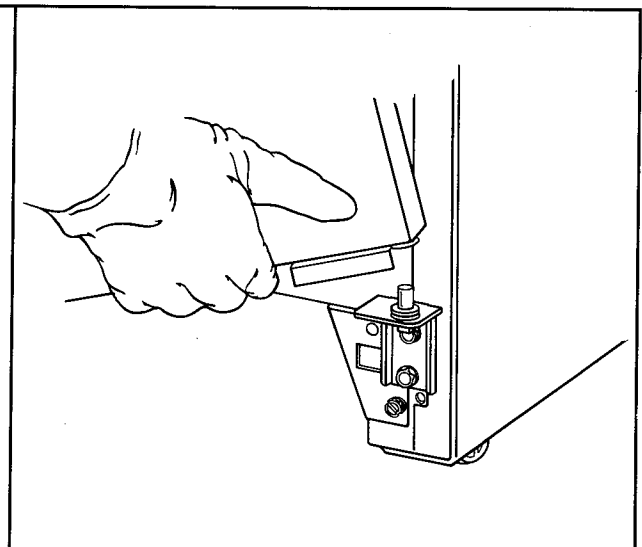

Figure 65
- b. Grasp refrigerator door securely and lift door upward as you open it. This will free refrigerator door from bottom hinge pin plate. See Figure 65.